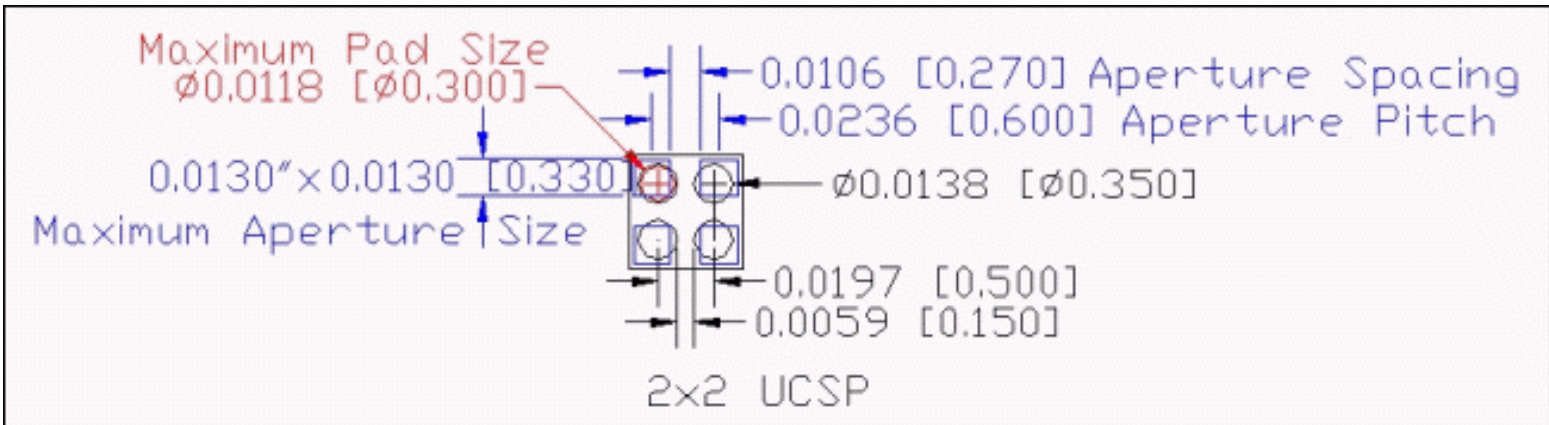

Figure 4. Example of 2 x 2 UCSP offset apertures Solder Stencil design.
- Solder Stencil Aperture Design: Use aperture aspect ratio of ≥ 0.75 for Laser Cut SS and ≥ 0.66 for E-Form Ni, with square (25 micron corner radius) vs. round aperture preferred for improved solder paste deposition repeatability. Aperture aspect ratio is defined as the aperture opening area divided by the aperture side wall surface area. Optionally, apertures X and Y offsets from land pads may be utilized to maximize separation between paste deposits and minimize the potential for solder bridging, as in **Figures 4** and **5**.